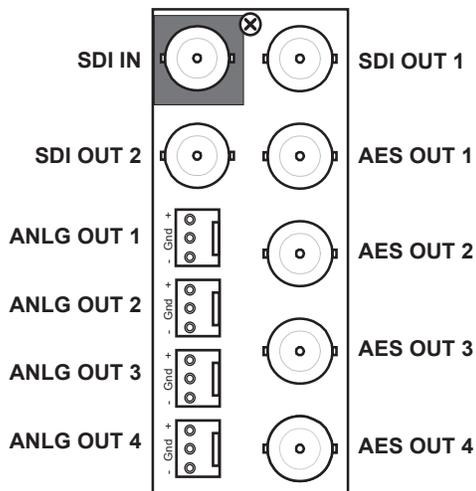
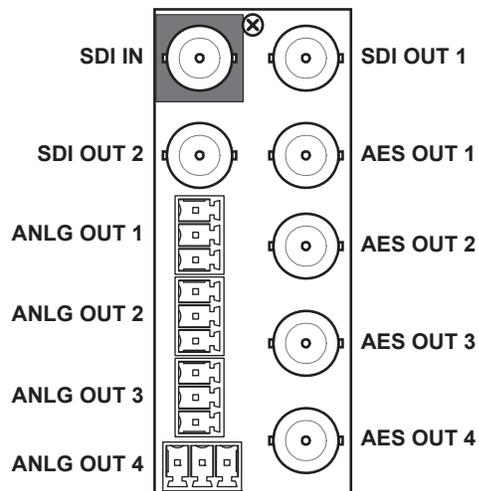

Figure 35 Cabling — 8320AR-058-03
Figure 36 Cabling — 8320AR-058-04
**Figure 35** illustrates the cabling designations for 8320AR-058-03 rear module. **Figure 36** illustrates the cabling designations for the 8320AR-058-04 rear module.